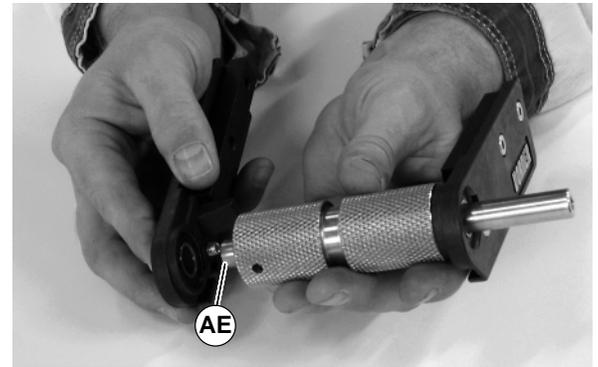

Figure 26
11. With bearing installed in head plate, press bearing on to non-drive shaft (AE of Figure 26) of pulley.